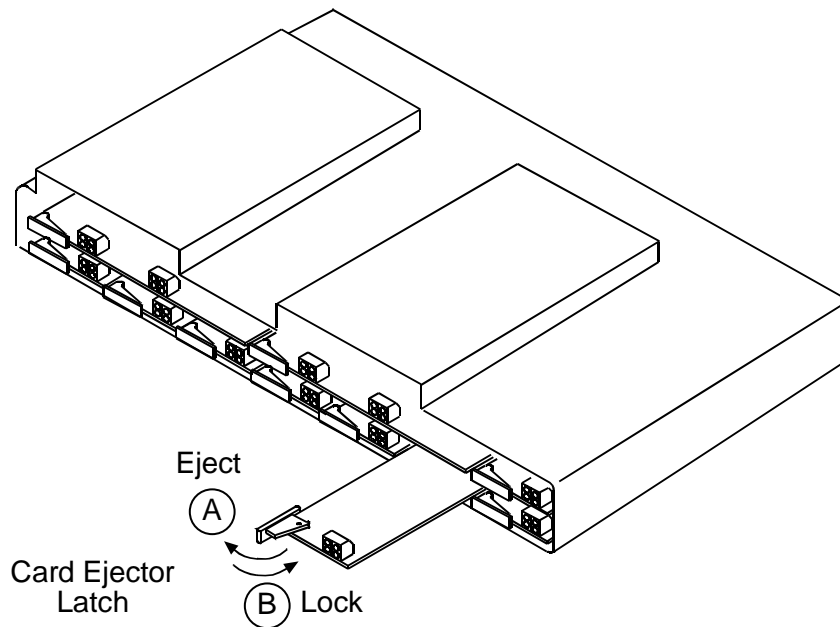

*Figure 16-10. Location of Quad T1 Framer Cards*
Each Quad T1 Framer card contains four DS1 circuits. DS1 circuit numbers are determined by the QF card slot (see also Figure 16-10):
1. Locate old Quad T1 Framer card to be replaced (see Figure 16-10).